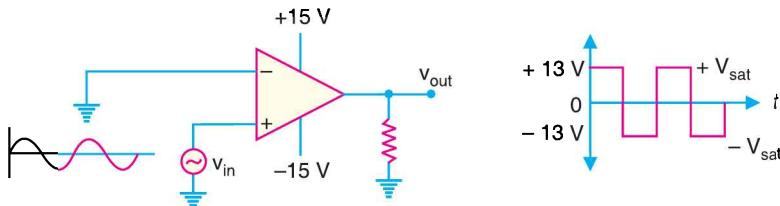

Fig. 25.94
1. As a square wave generator. A comparator can be used to produce a square wave output from a sine wave input. Fig. 25.94 shows the circuit of a comparator to produce square wave output. Note that inverting terminal (−) is grounded and signal (v_{in}) is applied to the noninverting terminal (+). Since the gain of a comparator is equal to A_{OL} , virtually any difference voltage at the inputs will cause the output to go to one of the voltage extremes ($+V_{sat}$ or $-V_{sat}$) and stay there until the voltage difference is removed. The polarity of the input difference voltage will determine to which extreme ($+V_{sat}$ or $-V_{sat}$) the output of the comparator goes.